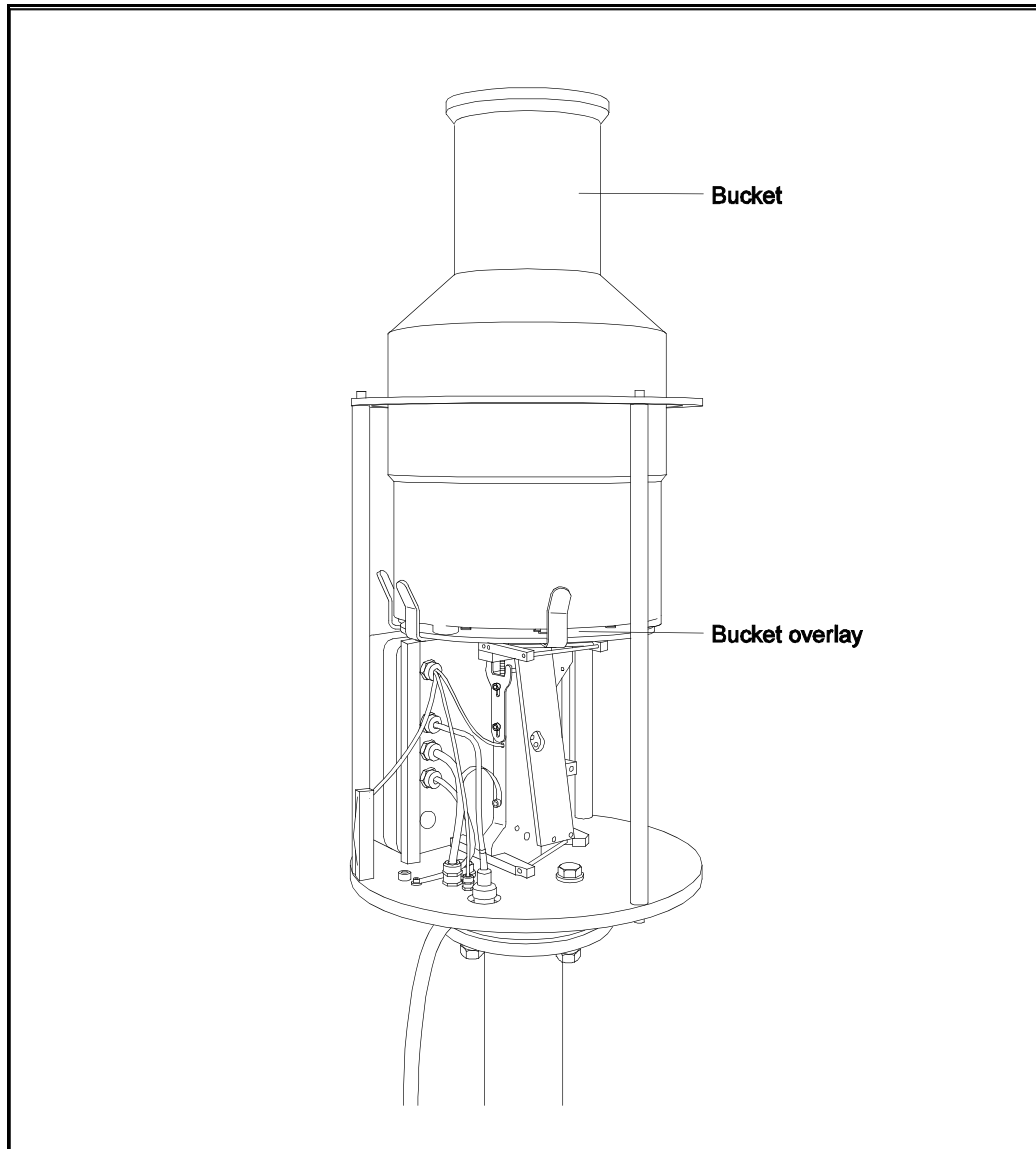

Figure 5
52. Place the collection bucket on the AWPAG sensor balance mechanism (see **Figure 5**).